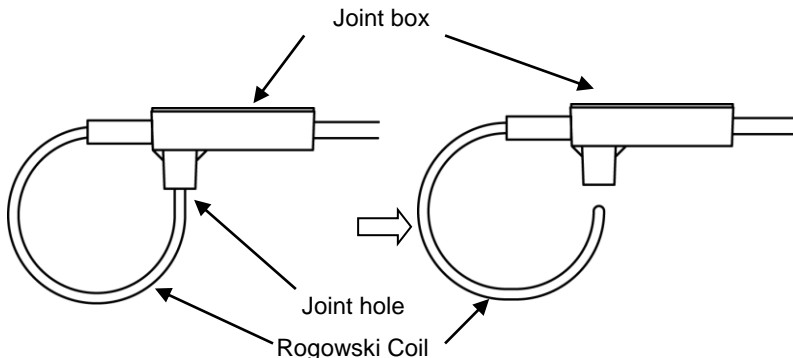

Figure 4.1 How to connect Rogowski Coil
- (3) Place the target to be measured through the Rogowski Coil Sensor.
- a) As illustrated in Figure 4.1, release free end of Rogowski Coil from the joint hole.